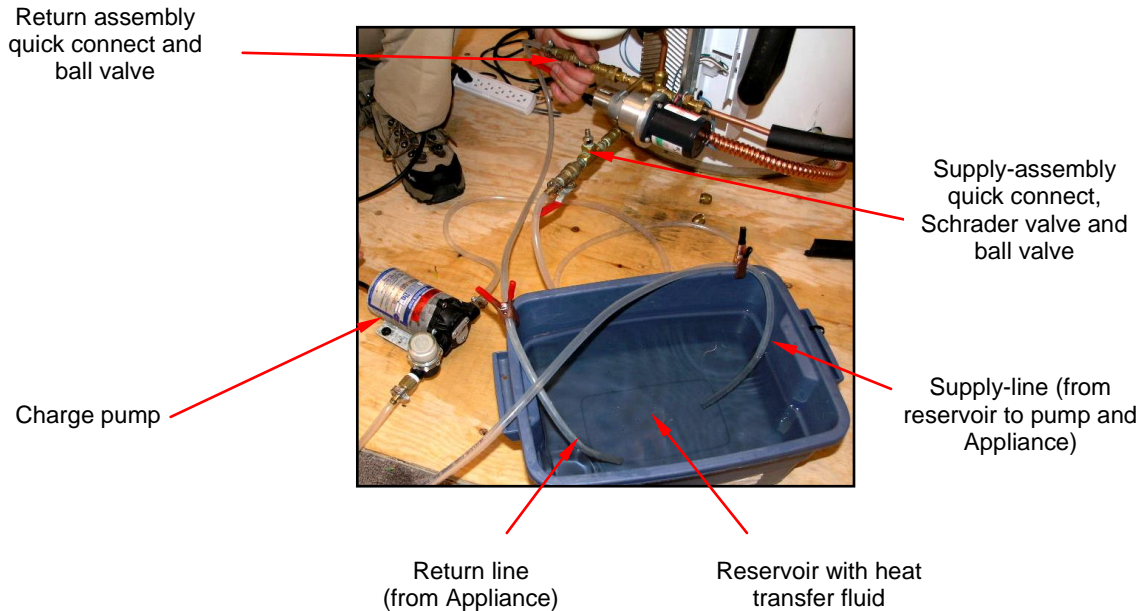

Fig.5.3.1 – Charging Kit and fluid reservoir.
2. Ensure pump suction hose is in heat transfer fluid reservoir, below fluid surface. Sufficient fluid must be in reservoir to maintain fluid level above inlet such that air does not enter Appliance (*Fig. 5.3.1*).